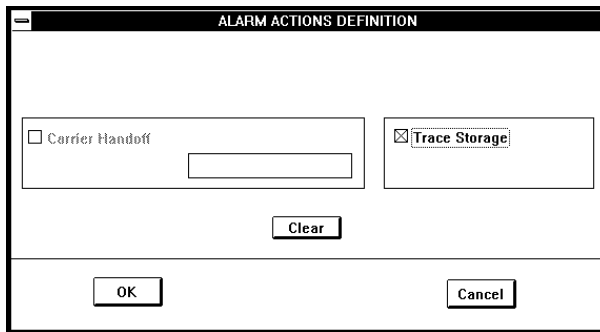
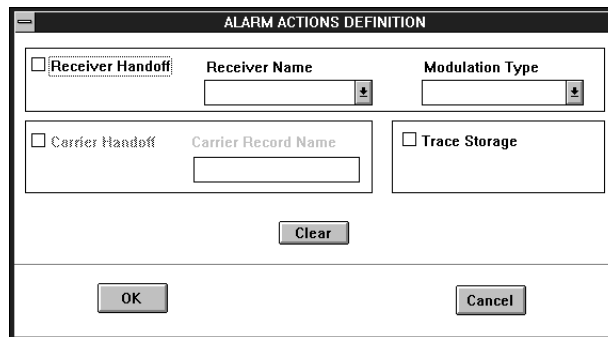

Figure 6-22: Alarm Actions Definition Dialog Box
Figure 6-23: Alarm Actions Definition Dialog Box
8. If alarm actions are required, click on **Alarm Actions...** to open the **Alarm Actions Definition Dialog Box** (Figure 6-22 and Figure 6-23).